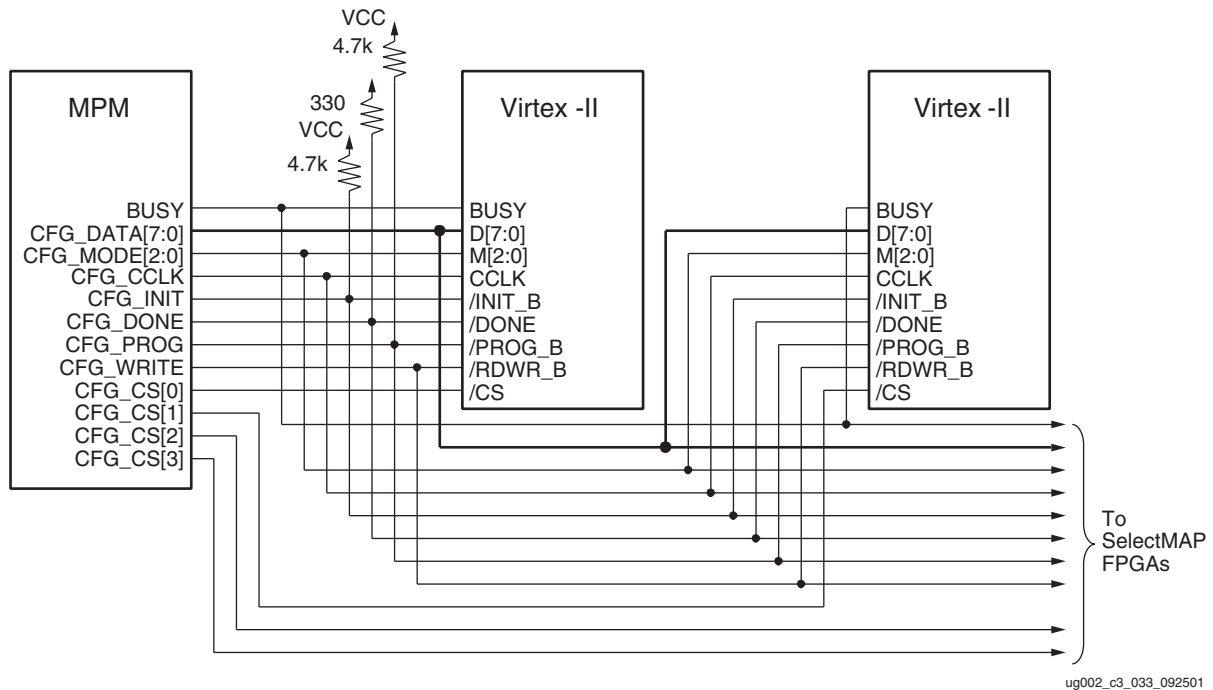
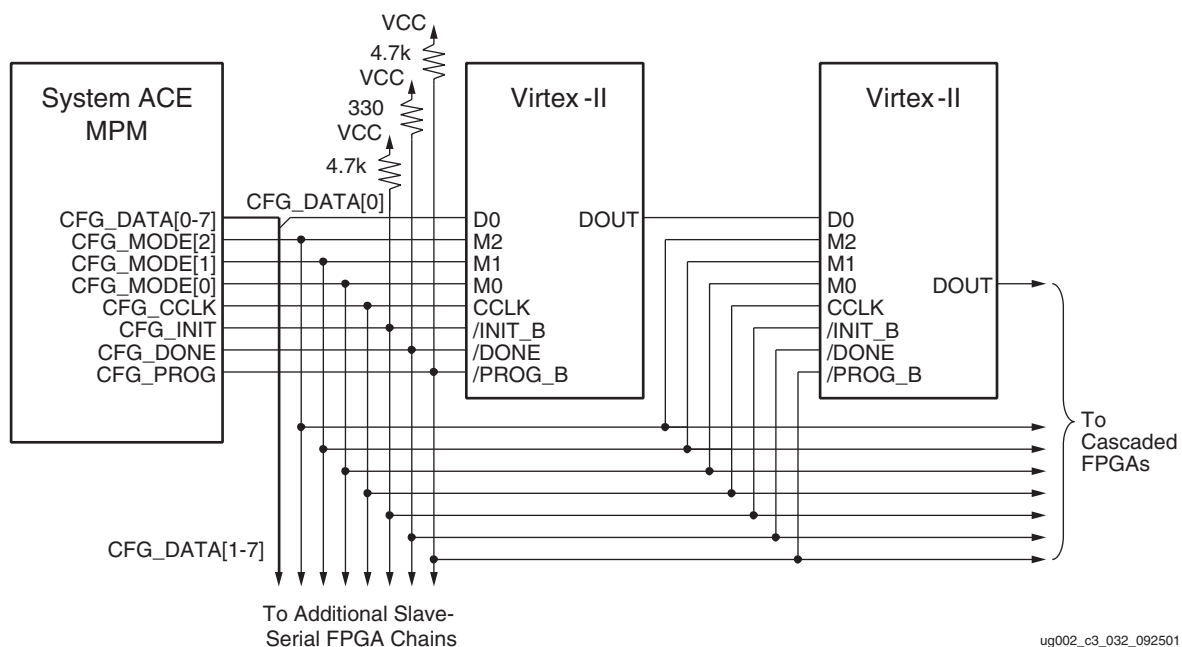

Figure 3-6: SelectMAP (8-bit) Configuration
Figure 3-7: Slave Serial (1-bit) Configuration
- Support for both SelectMAP (8-bit) (see Figure 3-6) and Slave Serial (1-bit) (see Figure 3-7) configuration